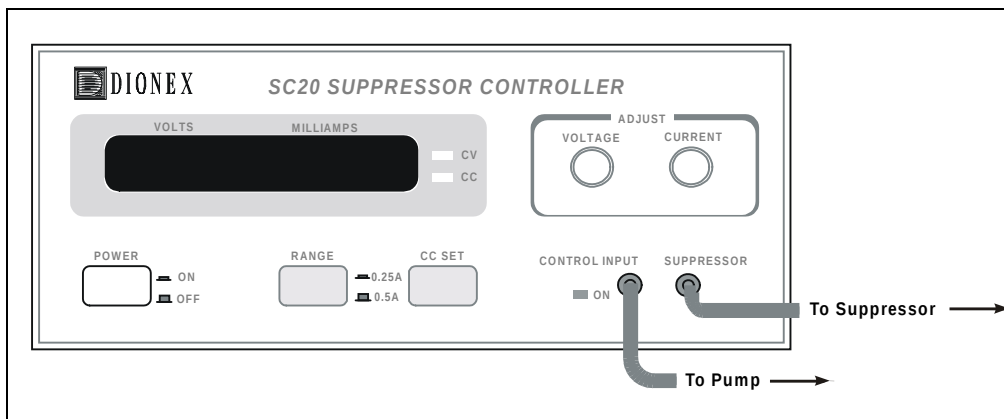

Figure 3. SC20 Suppressor Controller Front Panel
2. Locate the **SUPPRESSOR** cable extending from the front panel of the SC20 Suppressor Controller (see Figure 3). Route this cable to the chromatography compartment.
1. Locate the **CONTROL INPUT** cable extending from the SC20 front panel (see Figure 3).
1. Turn the **VOLTAGE** and **CURRENT** knobs on the SC20 front panel (see Figure 3) fully counterclockwise to prevent high voltage and current when the system is turned on.